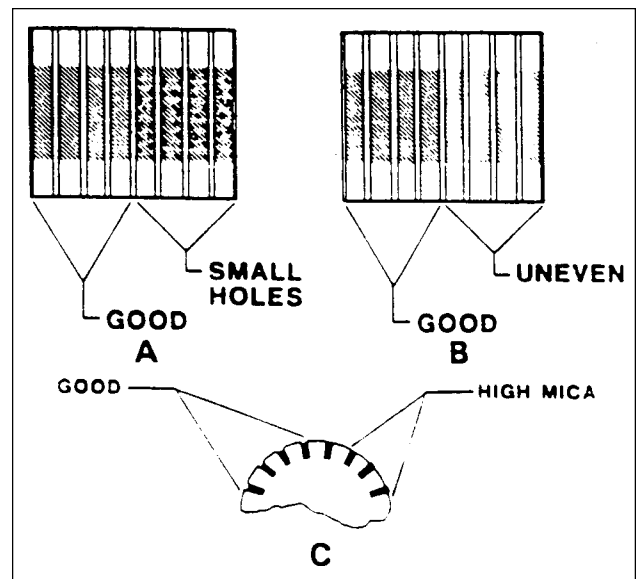

Figure 11
- a. Small holes in the surface of the commutator. See "A" in figure 11.
- b. Uneven color. Look for an even dark brown color. Clean areas or very dark areas indicate a problem. See "B" in figure 11.
- c. High mica. The mica insulation must be lower than the commutator bars. See "C" in figure 11.